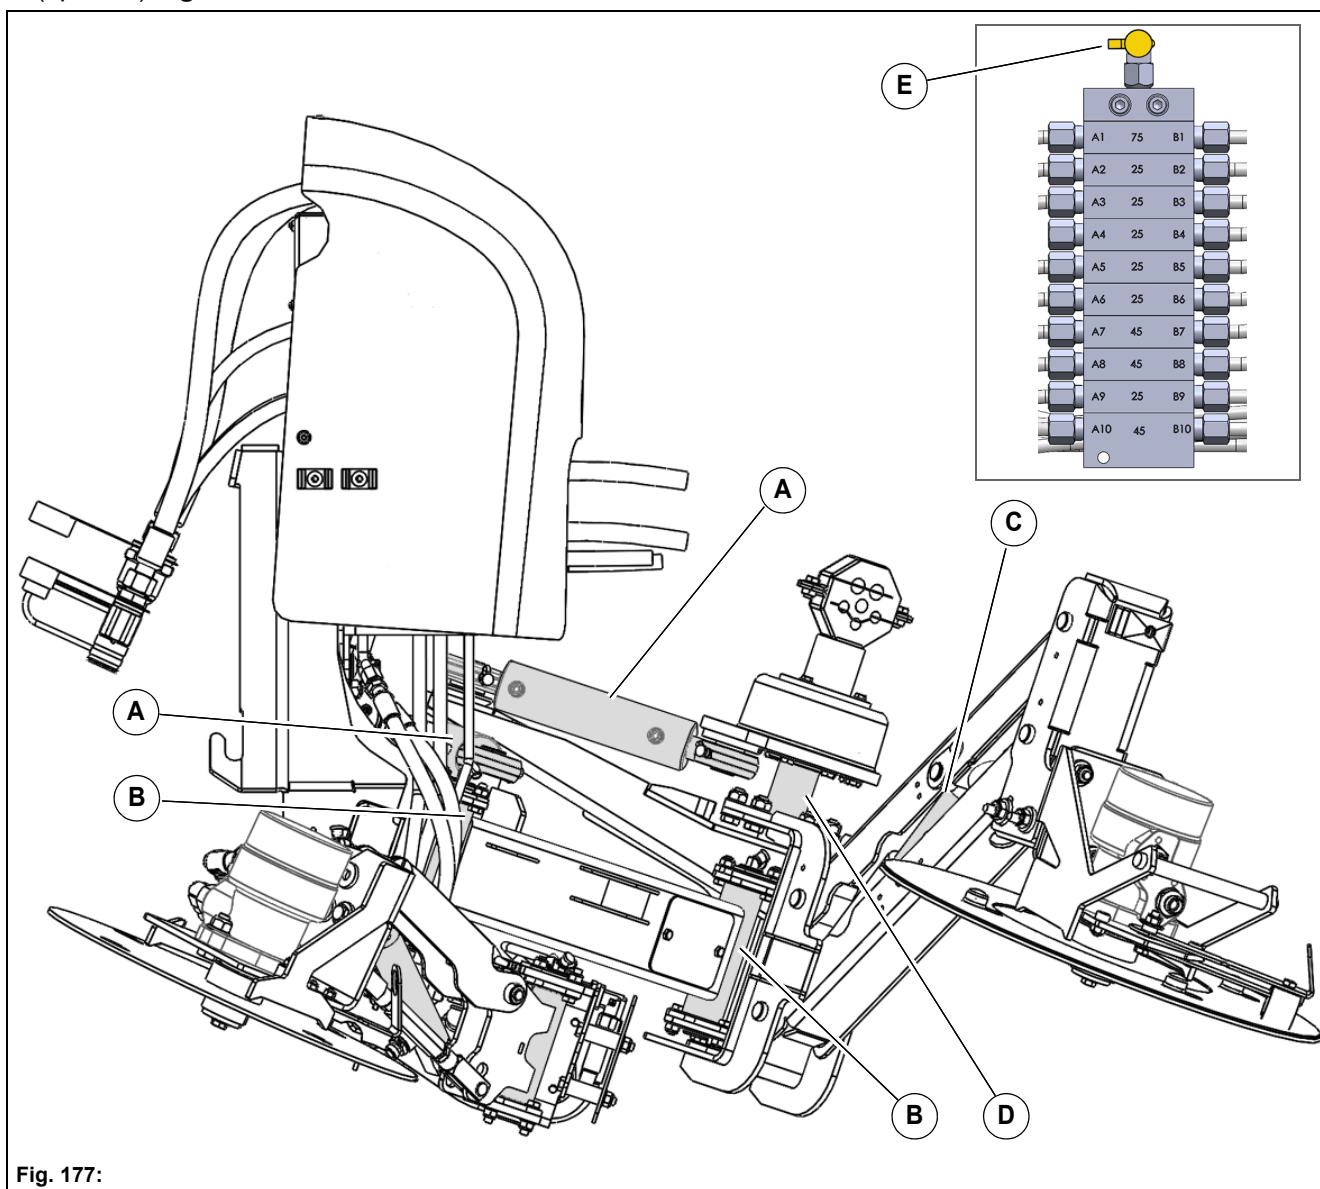

Fig. 177:
- at the hydraulic cylinders of the horizontal arm **Fig. 177-A** (x4)
- at the bearing bolts of the horizontal arm **Fig. 177-B** (x4)
- at the hydraulic cylinder for the vertical arm **Fig. 177-C** (x2)
- at the bearing bolt for the coupling **Fig. 177-D** (x1)
- single-point lubrication system sweeping unit 3-brush system (x1) (optional) **Fig. 177-E**